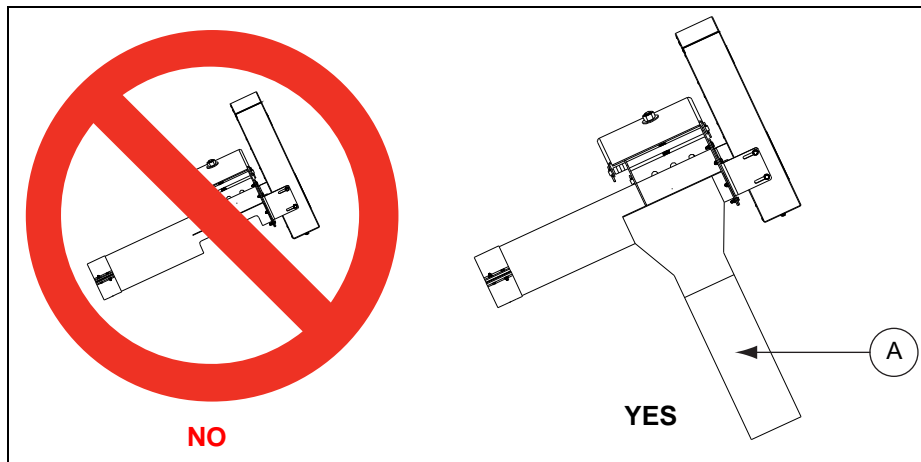

Figure 2B
2. Outlet guard, comprising discharge spout and minimum 850 mm long solid steel extension tube. (See Figure 2B on Page 14.)